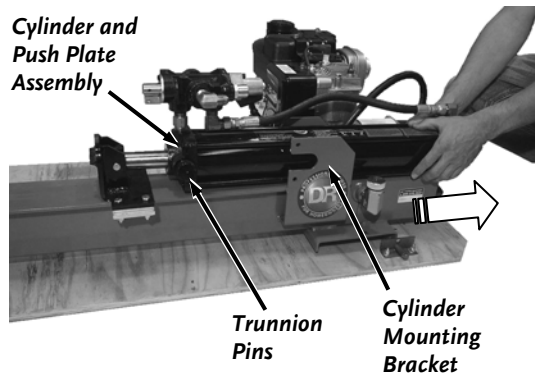

Figure 5
- Slide the Cylinder and Push Plate Assembly towards the Engine until the Trunnion Pins on the side of the Cylinder fit into the slots of the Cylinder Mounting Bracket (**Figure 5**).